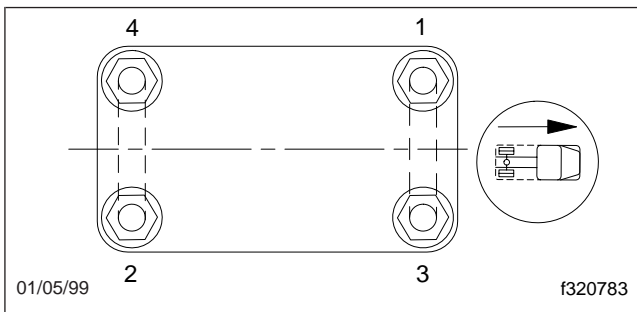

Fig. 6, Tightening Sequence for U-Bolt High Nuts
* Tighten in the sequence shown in Fig. 6.